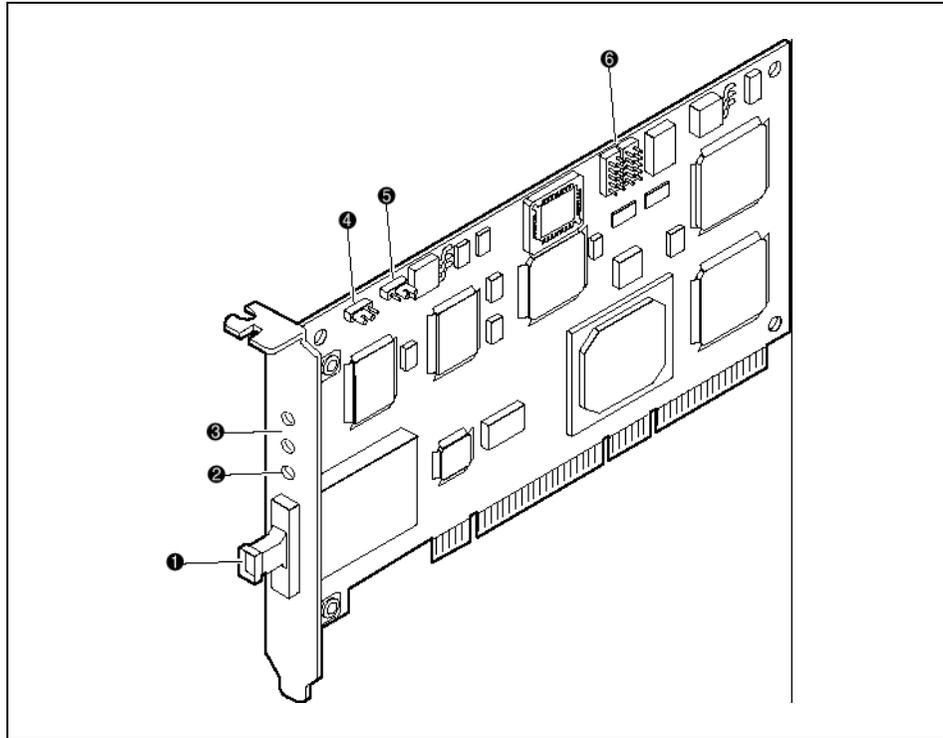

Figure 6-2 64-Bit PCI Fibre Channel Host Adapter
- Observe the LED indicators on the HBA (see Figure 6-2 and Table 6-4). The green LED indicates power functions and the yellow LED signifies port activity.
The Figure 6-2 legend is described in Table 6-4.